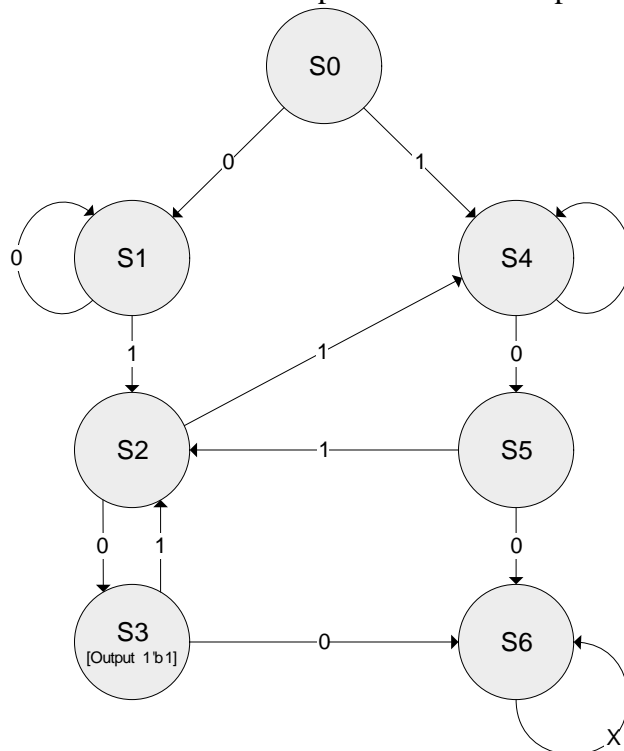

Figure 4: Sequence Detector FSM
**Download the Lab4Part3.bit file to the CaLinx2 board.** This will program the board with a very simple circuit, namely the FSM shown in Figure 4 below. You can do this by running the iMPACT directly from the Start Menu (**Start > Programs > Xilinx ISE 6 > Accessories > iMPACT**). In the dialog boxes that appear, select **Configure Devices**, then **Slave Serial Mode** and then open the bitfile file provided.
This simple FSM is a **sequence detector**, which has the state diagram shown in Figure 4. The circuit receives a 1-bit input on every clock cycle and asserts the output when it **detects the sequence 010**, as long as the **sequence 100 has never been received**.